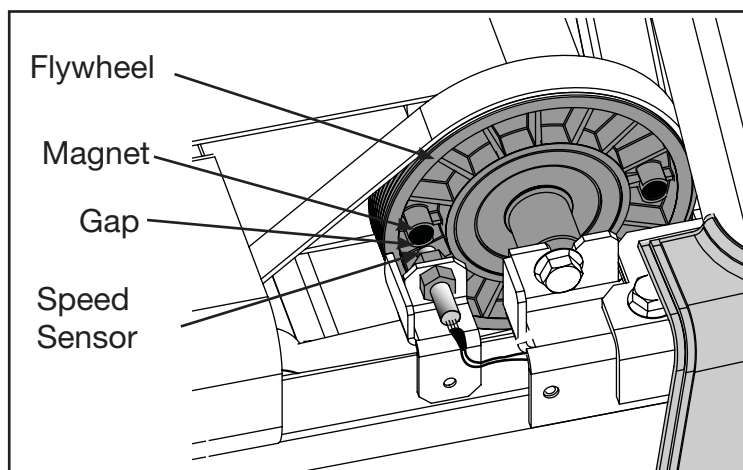

Figure 4
- A. Using two 1/2" open end wrenches, loosen the nuts that attaches the speed sensor to the frame bracket. See Figure 4.
- B. Adjust the gap between the speed sensor and the magnet on the front roller to 1/4" (.635 cm) and tighten the two nuts. See Figure 4.